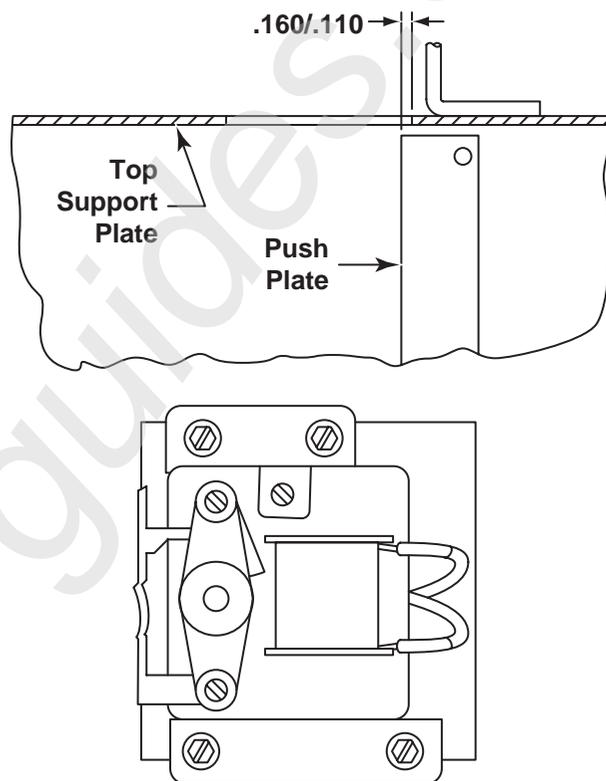

Figure 3-12. Pusher Plate Adjustment
2. Loosen the four mounting screws holding the motor plate as shown in *Figure 3-12*.
5. Move the pusher plate out by prying on the top end of the pusher plate with a small screw driver until it is approximately 1/8 inch past the hole in the top support plate as shown in *Figure 3-12*.